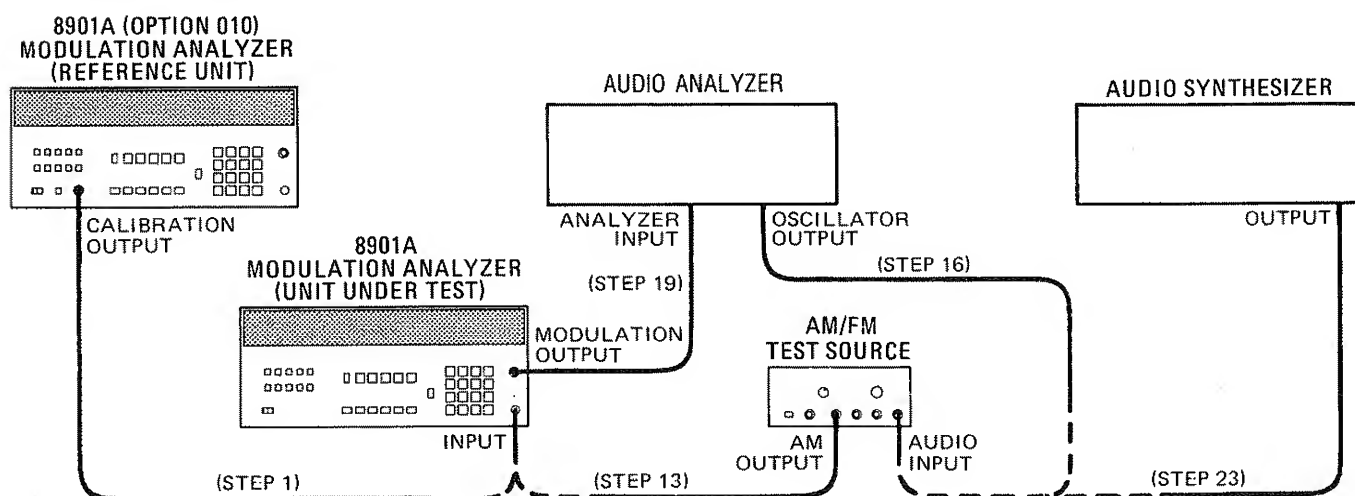

Figure 4-2. AM Performance Test Setup (Using a Second HP 8901A Equipped with Option 010)
13. On the AM/FM test source, set the test mode switch to AM. Connect the test source AM output to the INPUT of the Modulation Analyzer under test. (See figure 4-2. Nothing should be connected to the test source's audio input.)
16. Set the audio analyzer's source to 20 kHz. Connect its output to the audio input of the AM/FM test source (see figure 4-2).
19. Connect the audio analyzer's input to the MODULATION OUTPUT of the Modulation Analyzer under test. (See figure 4-2.) Set the audio analyzer to measure the distortion on the 20 kHz signal at the MODULATION OUTPUT with 80 kHz of low-pass filtering (on the audio analyzer). The distortion should be 0.3% or less (-50.5 dB or less).
23. Set the audio synthesizer to 1 kHz at +5 dBm. Connect its output to the audio input of the AM/FM test source. (See figure 4-2.) Fine adjust the audio synthesizer level for a Modulation Analyzer under test display of 80% AM.